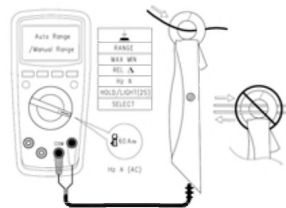

Figure 11
- * 60A AC and DC current clamp measurement (See Figure 11). Connect as shown in the figure with the attached current clamp.